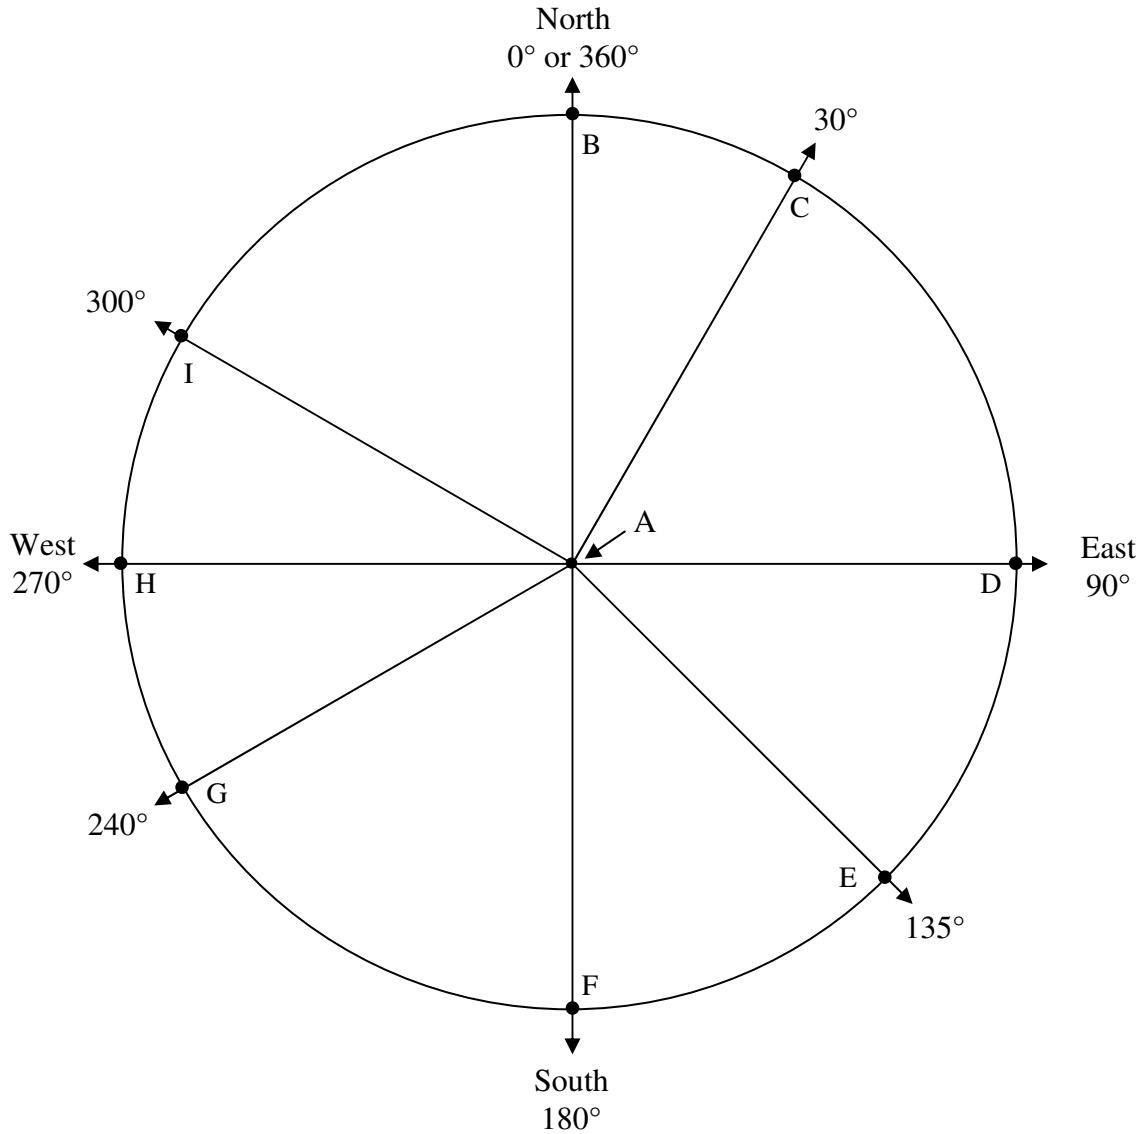

Figure 2-2: Bearing circle with directions
Angles are expressed in degrees. There are 360 degrees (or 360°) in a complete circle, as shown in Figure 2-2. The symbol for angular degrees, $^\circ$, is the same symbol we use for temperature degrees.
1. Measuring in a clockwise direction, how many degrees are between the North direction (vector AB) and the East direction (vector AD)? See Figure 2-2.
Exercise 2-1 (see Figure 2-2)